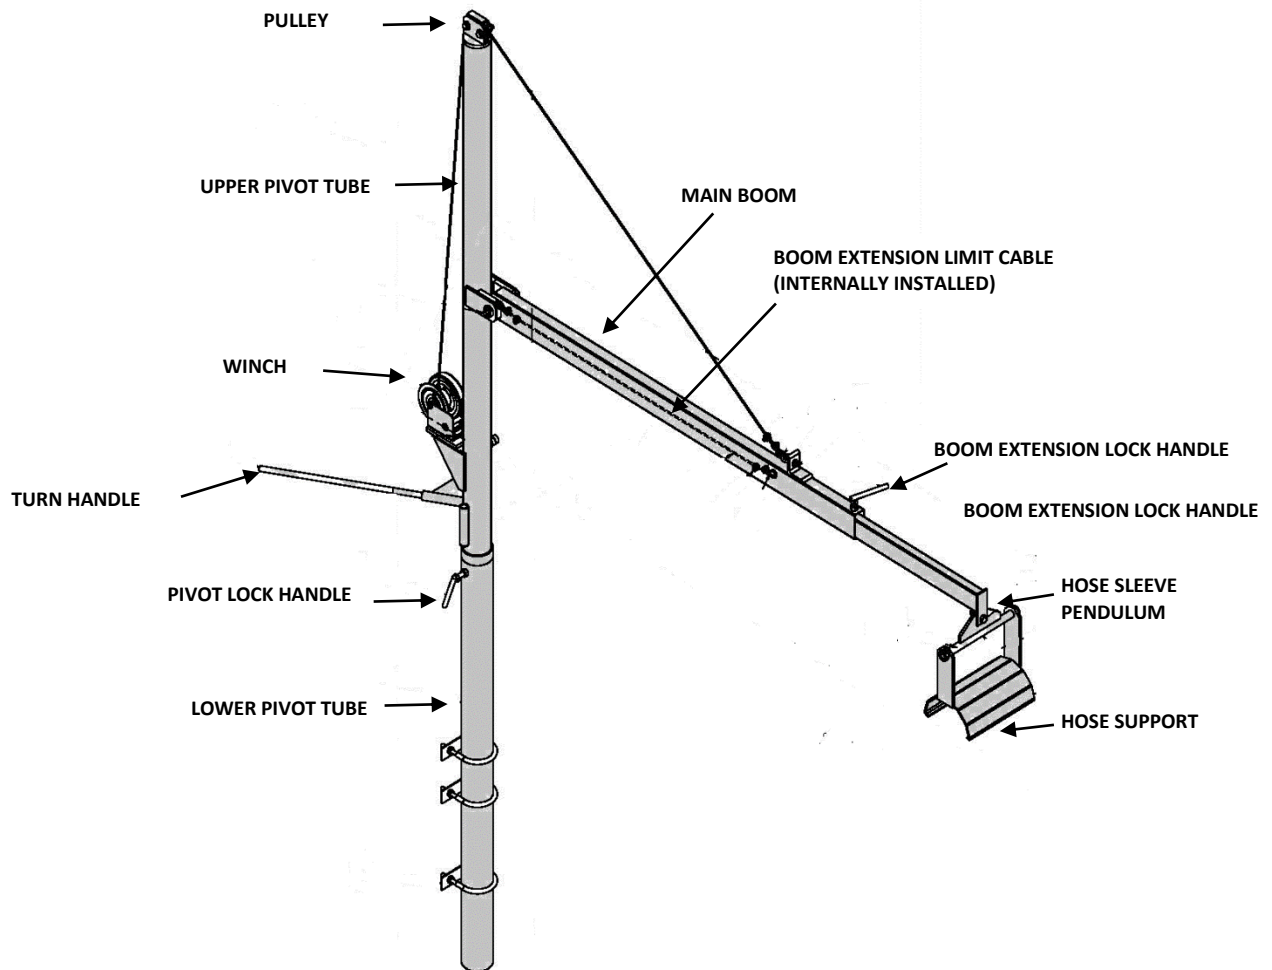

FIGURE 2-1 HOSE HANDLER ASSEMBLY COMPONENTS
b) MECHANICAL EQUIPMENT (SEE FIGURE 2-1)